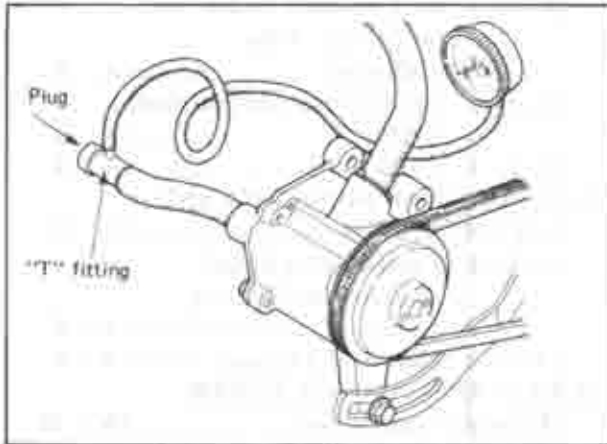

Fig. 1A-1 Checking air pump
5. Connect the **air pump gauge set** (49 2113 010B) to the air hose as shown in Fig. 1A-1, and clamp hose securely to gauge.